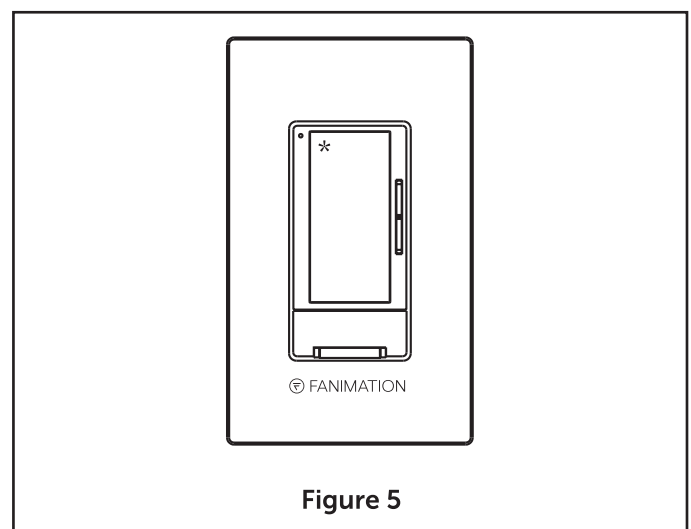

Figure 5
- 5. Operating Wall Control: (Figure 5)